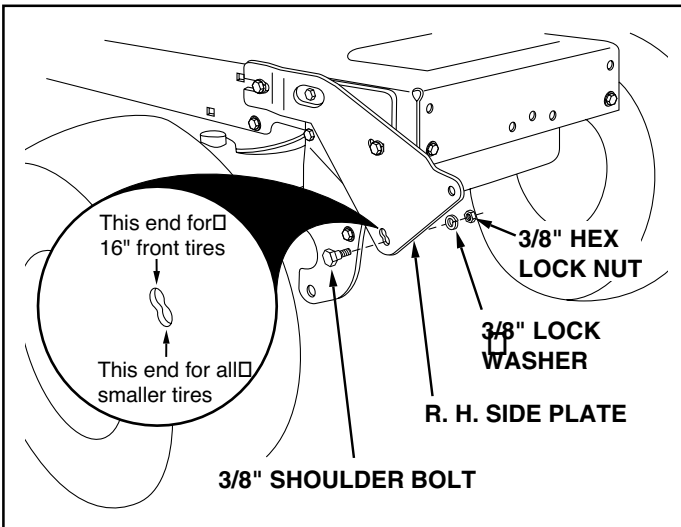

FIGURE 3 **RIGHT SIDE VIEW**
- Assemble a shoulder bolt, a 3/8" lock washer and a 3/8" hex lock nut to the bottom hole in each side plate. See figure 3.